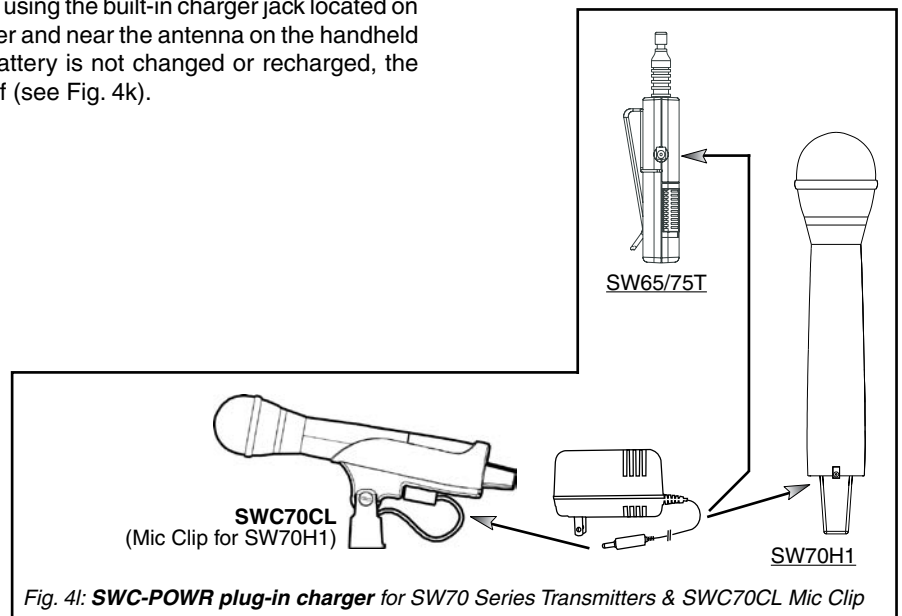

Fig. 4l: SWC-POWR plug-in charger for SW70 Series Transmitters & SWC70CL Mic Clip
6. Beltpack and handheld batteries can be recharged without removing them from the transmitters. Just connect charger plug to the transmitter jack (see Fig. 4l).
Equipment Connections. Each SW65- & 75-T or SW-H Series transmitter comes equipped with an SWC-POWR Tireless Wireless™ plug-in charger (see Fig. 4l). In addition, each SW-H comes with its own battery-charging mic clip (SWC70-CL). The SWC-POWR charger can be plugged directly into either the transmitter or into the clip. A Sabine rechargeable battery (SWBC1) will charge whenever the mic clip is connected to the Sabine SWC-POWR charger and the handheld is properly placed within the mic clip.
Battery Warnings. When the transmitter battery voltage drops below a critical threshold, the battery icon (which normally displays the voltage level) will begin to flash. This will occur on the transmitter and receiver and is an indication that you need to replace the battery, or charge it by placing the handheld mic in the charger clip. **NOTE:** Microphone will still transmit audio when placed in clip. Alternatively, you can connect the charger directly to the transmitter using the built-in charger jack located on the side of the beltpack transmitter and near the antenna on the handheld transmitter (see Fig. 4l). If the battery is not changed or recharged, the transmitter will eventually turn off (see Fig. 4k).